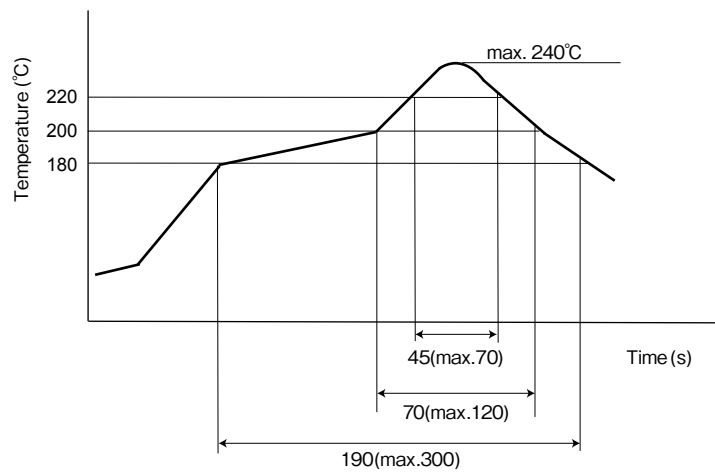

Figure 5.8(1) Temperature Profiles
| <4> Temperature profile:           | Refer to Figure 5.8 (1)                                     |